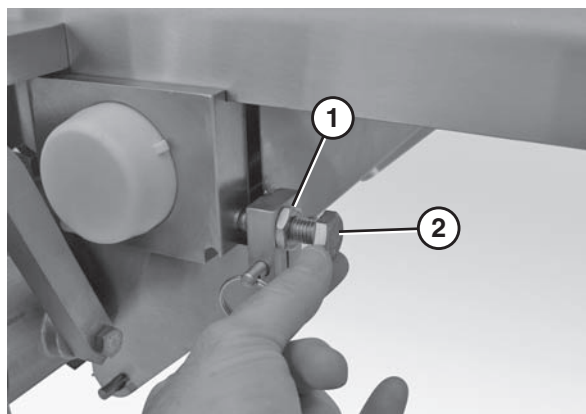

Figure 53
1. Loosen the guide plate nuts (**Figure 53, item 1**) on the infed side of the center drive assembly.
2. Tighten the guide plate bolt (**Figure 53, item 2**) to move the belt away from that side of the conveyor.